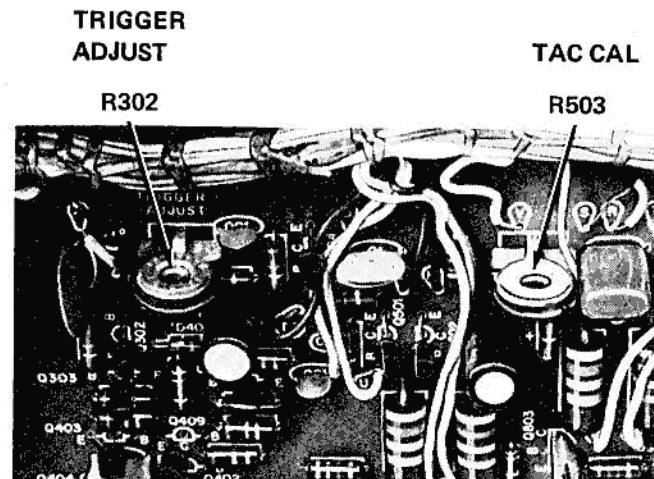

Figure 3
- () Refer to Figure 3 and, using the insulated tool, preset the TRIGGER ADJUST control (R302) fully counterclockwise.